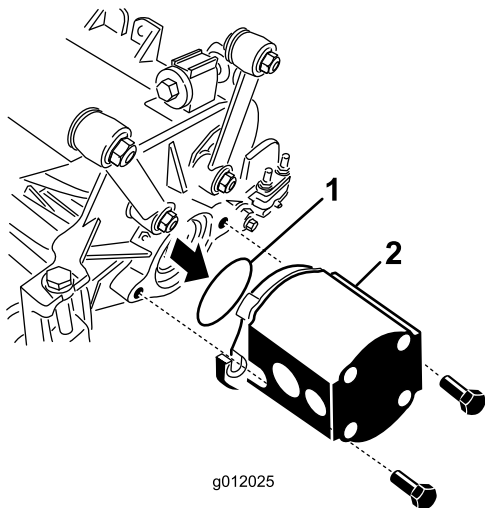

Figure 25
- Insert the O-ring (supplied with the cutting unit) on the flange of the drive motor (Figure 25).
- Mount the motor to the drive end of the cutting unit, and secure it with 2 capscrews provided with cutting unit (Figure 25).